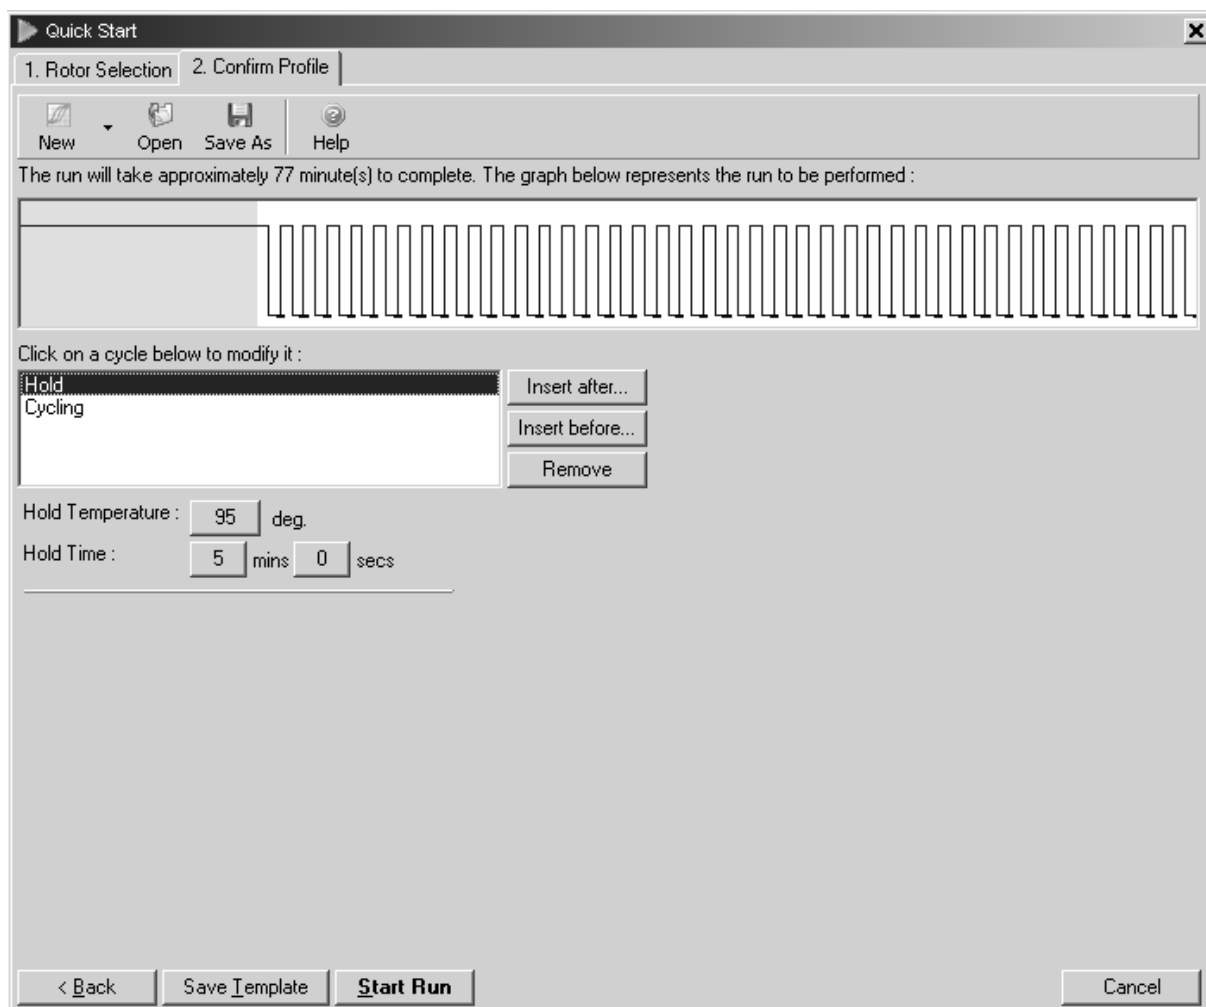

Figure 2. PCR initial activation step. PCR requires an initial incubation at 95°C for 5 min to activate HotStarTaq *Plus* DNA Polymerase.
5. Program the Rotor-Gene cycler according to Table 5 (below) and Figures 2 and 3 (pages 24 and 25).